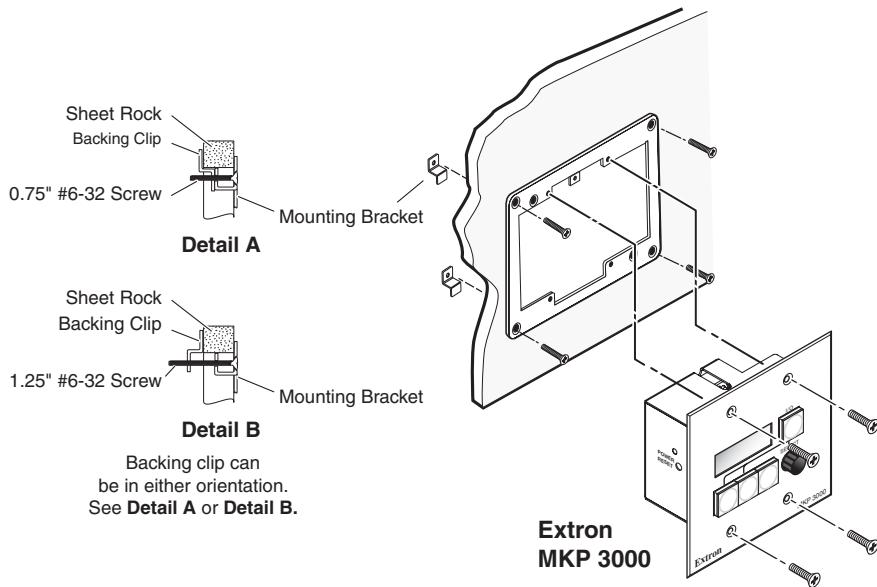

Figure 2-3 — Attaching a mud ring to a wall
7. **If you are using a mud ring**, follow the directions, if any, that came with the mud ring to attach the clips that fasten it to the wall or furniture (figure 2-3).